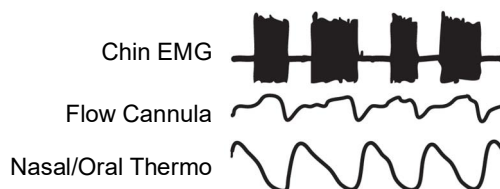
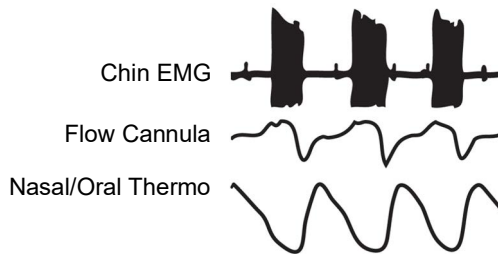

Figure 5-5. Good Stimulation Timing
Figure 5-6. Stimulation Starting Late
3. The off period is used to control the time between stimulation bursts (Figure 5-5). Off period should be reduced if stimulation consistently starts late (Figure 5-6).